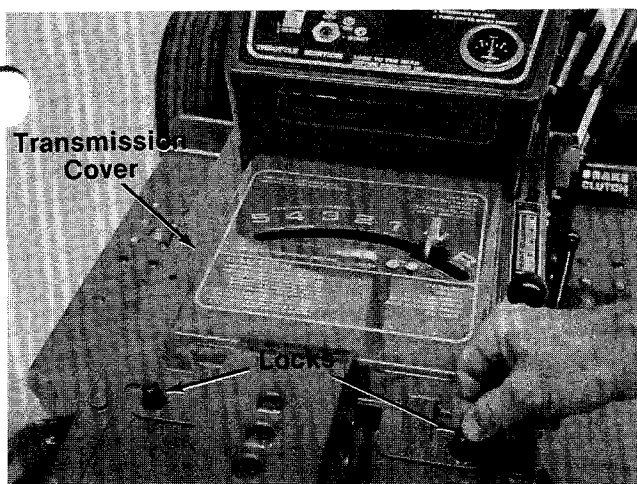

FIGURE 6.
2. Push down and turn the locks on the transmission cover one-quarter turn. See figure 6.